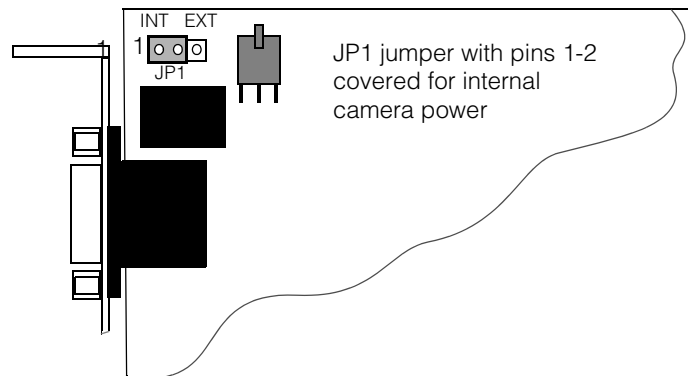

Figure 2. JP1 jumper position for internal camera power
3. Select the source of +12 V camera power by positioning jumper JP1. Figure 2 shows the JP1 jumper position for internal camera power. The total available power with the jumper in this position is approximately 750 ma for *all* installed cameras.